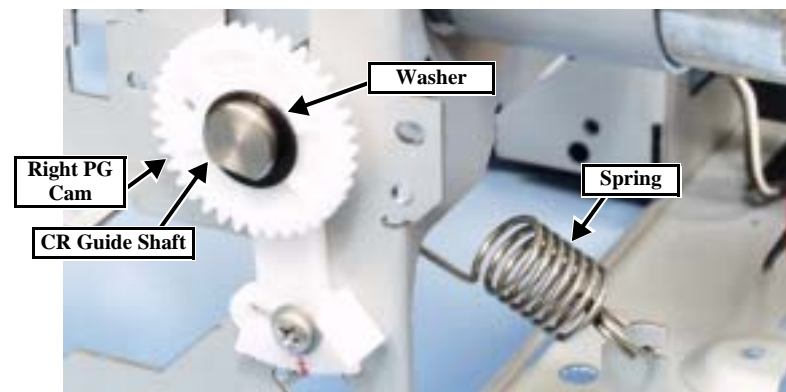

Figure 4-71. Removing the Carriage Assy (at right side)
11. At the right side of the printer, remove the spring, remove the washer, and the Right PG Cam. (Fig. 4-71)